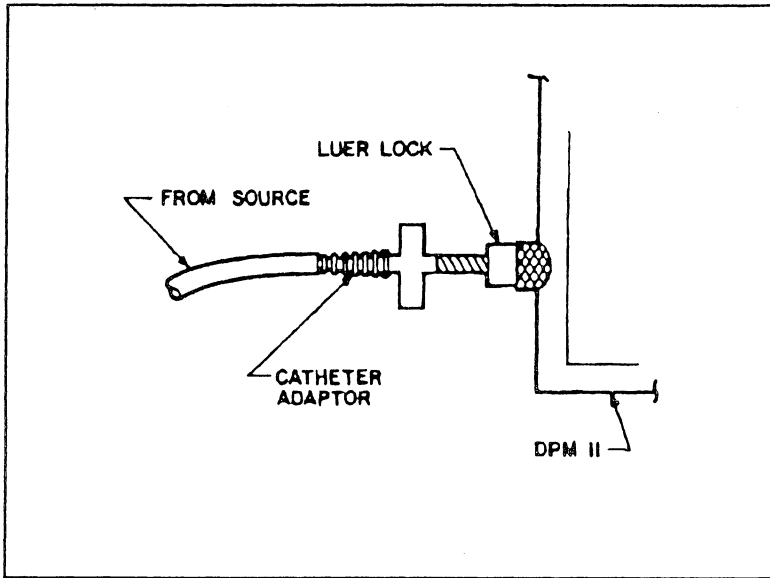

Figure 2-2. Model DPM-III to Catheter Connection
- Check static cuff pressure and cuff pressure variations (see *Figures 2-2* through *2-5*) for: